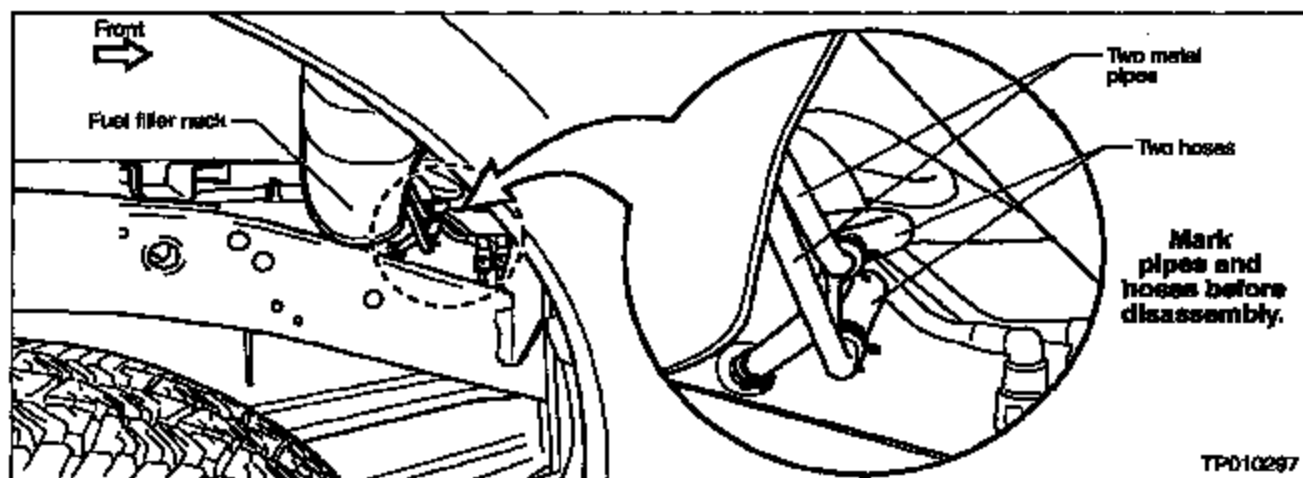

Figure 12
- Before disassembly: use duct tape and an "indelible" marker (permanent marker), to mark the matching pipes and hoses, which are attached to the fuel filler neck (see Figure 12).